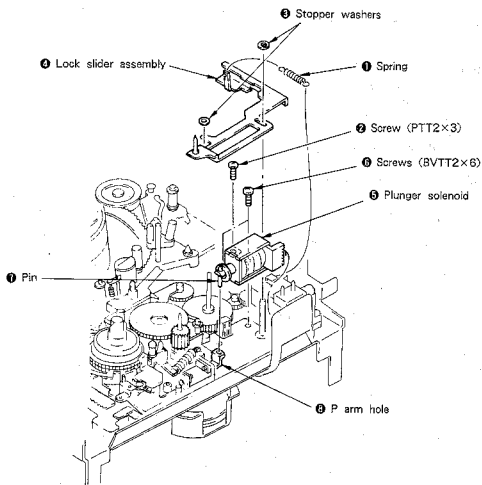

Fig.7-36.
Removal (See Fig. 7-36.)
2. Mounting (See Fig. 7-36.)